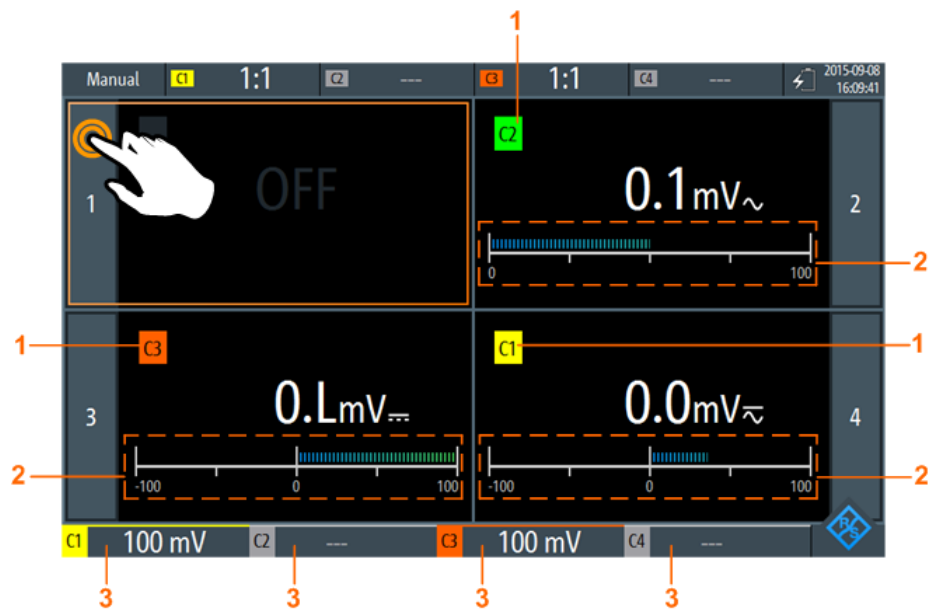

Figure 7-5: Four-voltmeter-view
- Tap the meter number as shown in Figure 7-5.